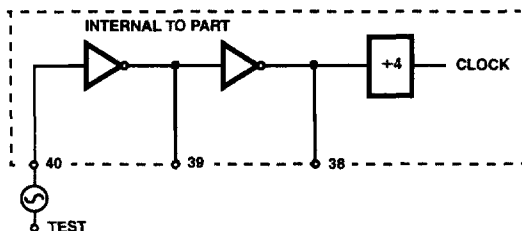

FIGURE 7A. EXTERNAL SIGNAL
1. Figure 7A, an External Oscillator Driving OSC 1.